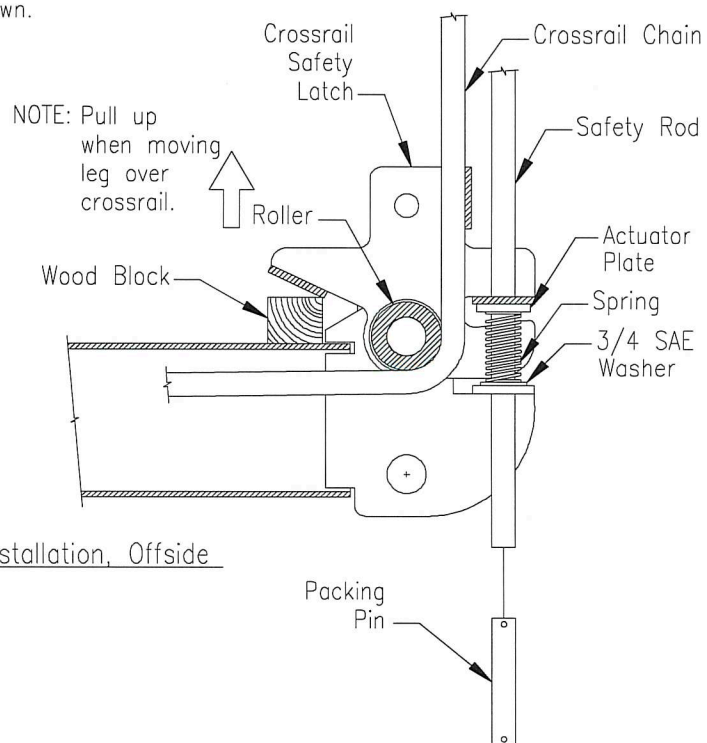

Figure 8. Safety Rod Installation, Offside
| Figure 8, Safety Rod Installation, Offside.....  | Page 13 |
24. Refer to Figure 8, Offside Safety Rod Installation. Thread a 3/4 nut onto a safety rod, position the wood block, and remove the nail from the packing pin. Insert a safety rod into the cross rail end assembly as described above in Step 14. While pulling up on the safety latch, guide the safety rod end into the rear hole of the offside leg top and position the leg over the end of the end of the cross rail. Secure the top end of the safety rod with a 3/4" nut as described in Step 14. Remove the wooden block. Repeat for the other cross rail.